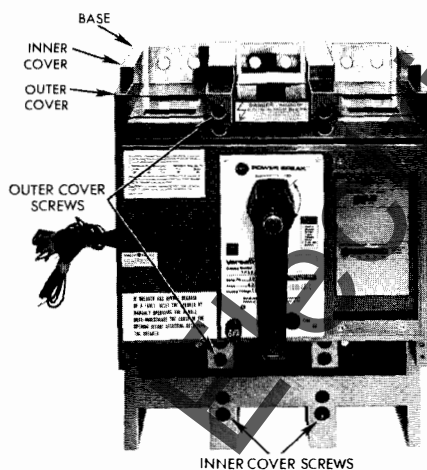

Fig. 3. 1600-2000A Frame Electrical Breaker
1. 1600-2000A Frames only—Remove two inner cover mounting screws. (See Fig. 3).